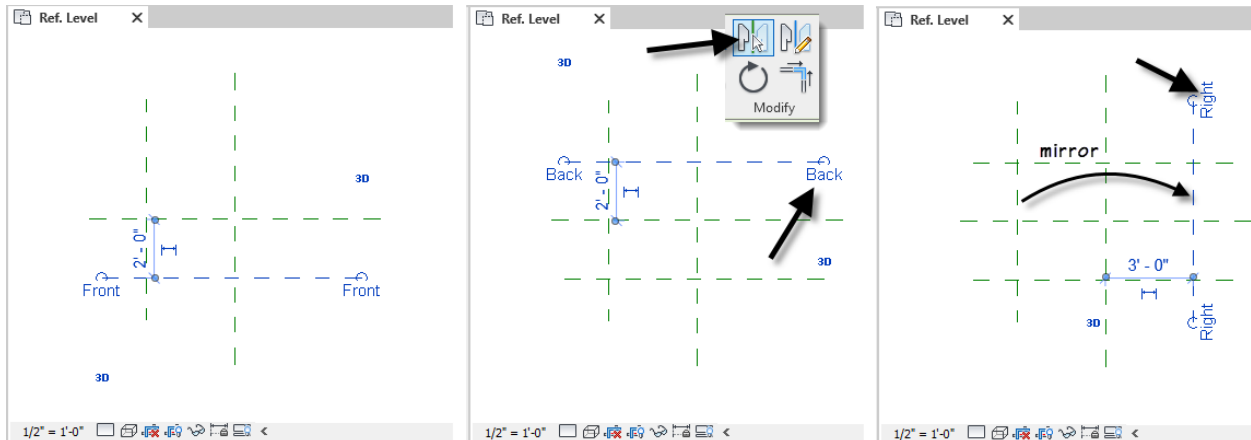

Figure 4
7. Repeat for the remaining one, name it: **Right** (you'll end up with four total; see Figure 4).